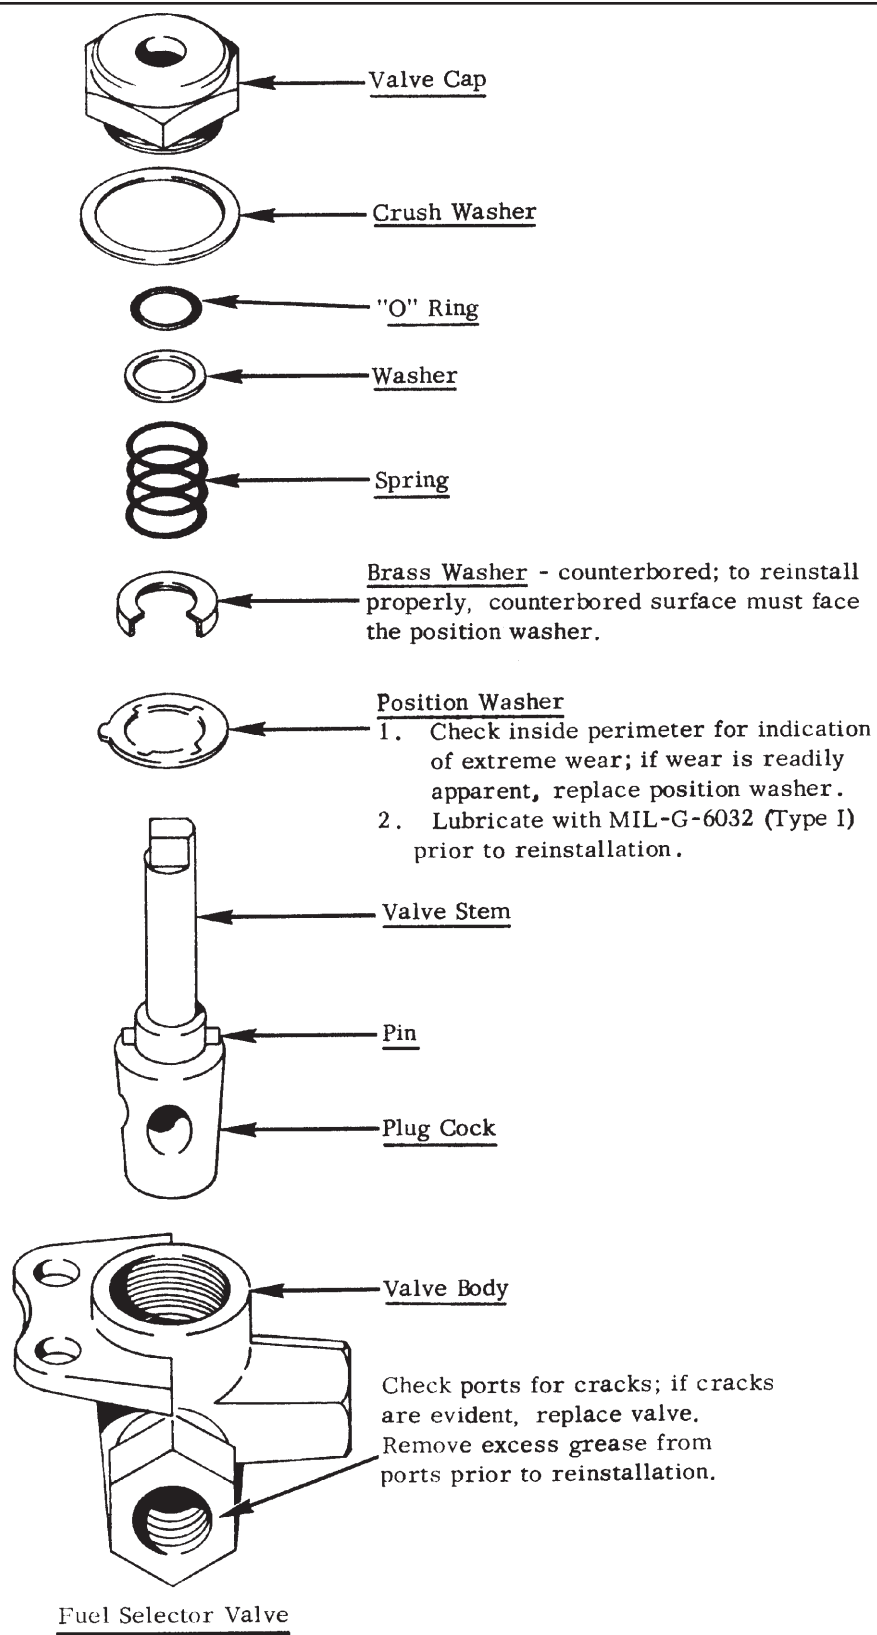

Figure 3-5. Fuel Selector Valve Inspection
- (a) With the valve removed from the aircraft, remove the valve cap and interior parts (see Figure 3-5).
(7) INDUCTION AIR INLET DUCT AND ALTERNATE HEAT DUCT INSPECTION